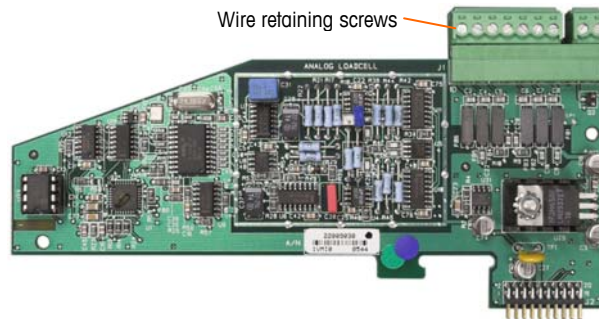
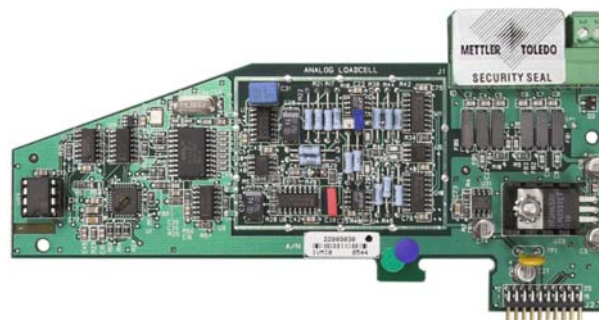

Figure 2-93: Unprotected Option Board Connection
Figure 2-94: Security Seal Installed
3. To protect the load cell interconnecting cable/s (attached to option boards), a security seal must be placed over the connectors to ensure that they are not removed or disconnected. The seal also prevents access to the wire retaining screws indicated in Figure 2-93. Figure 2-94 shows a seal in place.